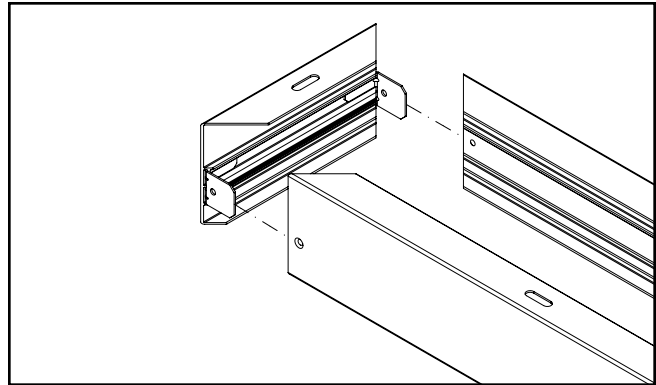

Figure 3.
- A3. Join a short rail with the long rails by inserting the protruding leg of each L-bracket into the corresponding slot on the long rail. Repeat on the opposite side to form a rectangle. (Figure 3.)